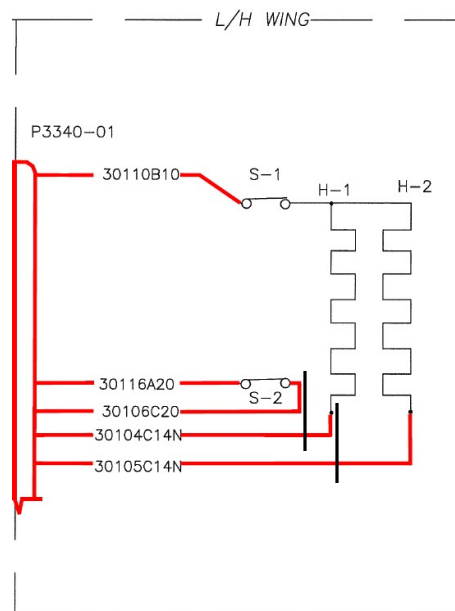

Figure 42: Wing Schematic highlighting Connection with Fuselage
13.2.1 Follow the instructions below to assemble the wire connection for the wing to the fuselage, as shown in Figure 42.